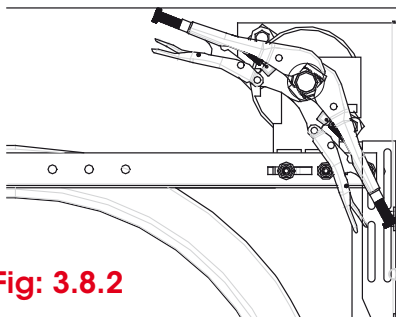

Fig: 3.8.2
a) Secure the torsion bar using 2 pipe wrenches, as shown in Fig 3.8.2.